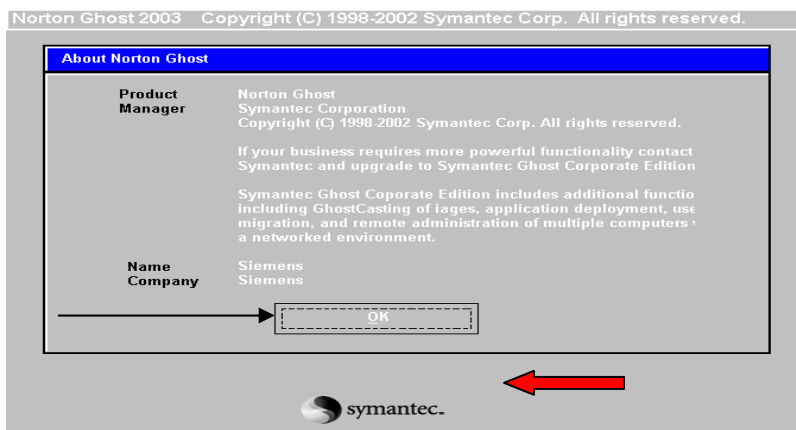

Figure 1-178. About Norton Ghost
10. Click **OK** to continue from the About Norton Ghost prompt. The “About Norton Ghost” dialog is displayed (Figure 1-178). Click on **OK**.